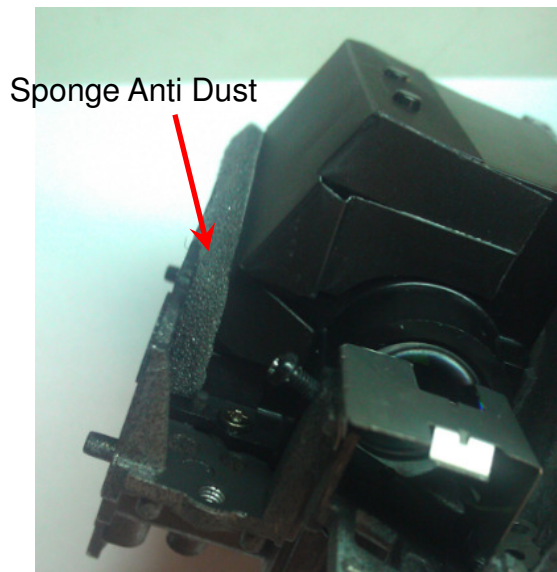

Fig. 4-5-1
4.5 Paste “Sponge Anti Dust” on Clearance between “Sub HSG” and “HSG DMD” (Fig. 4-5-1~2).